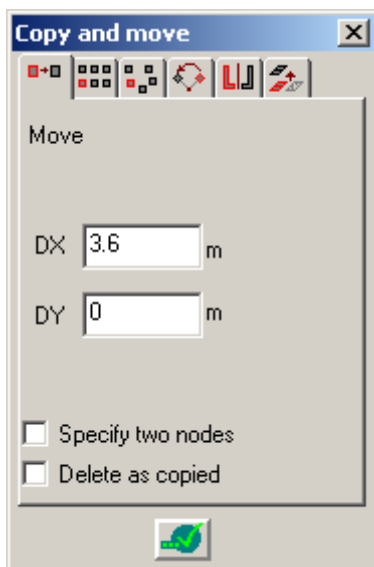

Figure 1.4.6 **Copy and move** dialog box
- ⇒ In the **Copy and move** dialog box, on the **Move** tab  (see Fig.1.4.6), define the following parameters: